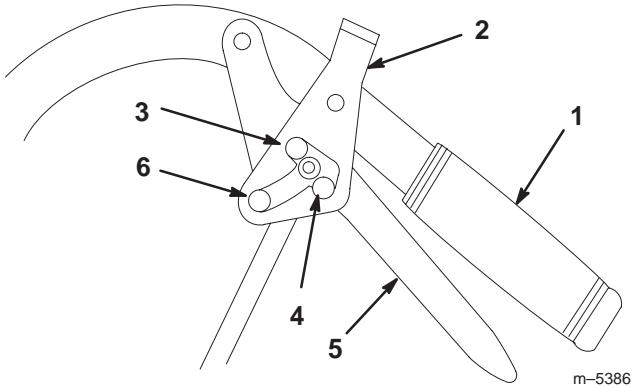

Figure 12
2. Place thumbs on the upper part of locks and move them ahead (Fig. 12).
2. Place thumbs on the upper part of locks and move them back until in forward speed slot (Fig. 12).
2. Place thumbs on the upper part of locks and move them back (Fig. 12).
2. Place thumbs on the upper part of locks and move them forward until in forward slot (Fig. 12).